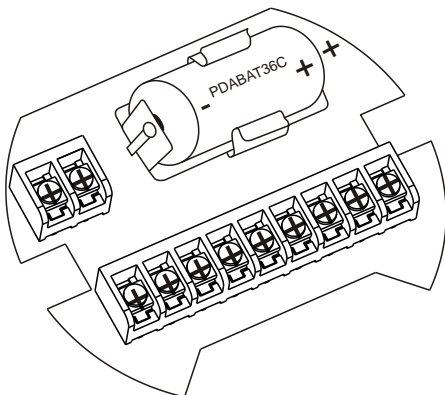

Figure 17. Battery Orientation
- Install new PDABAT36C into battery clip with polarity as shown in Figure 17.